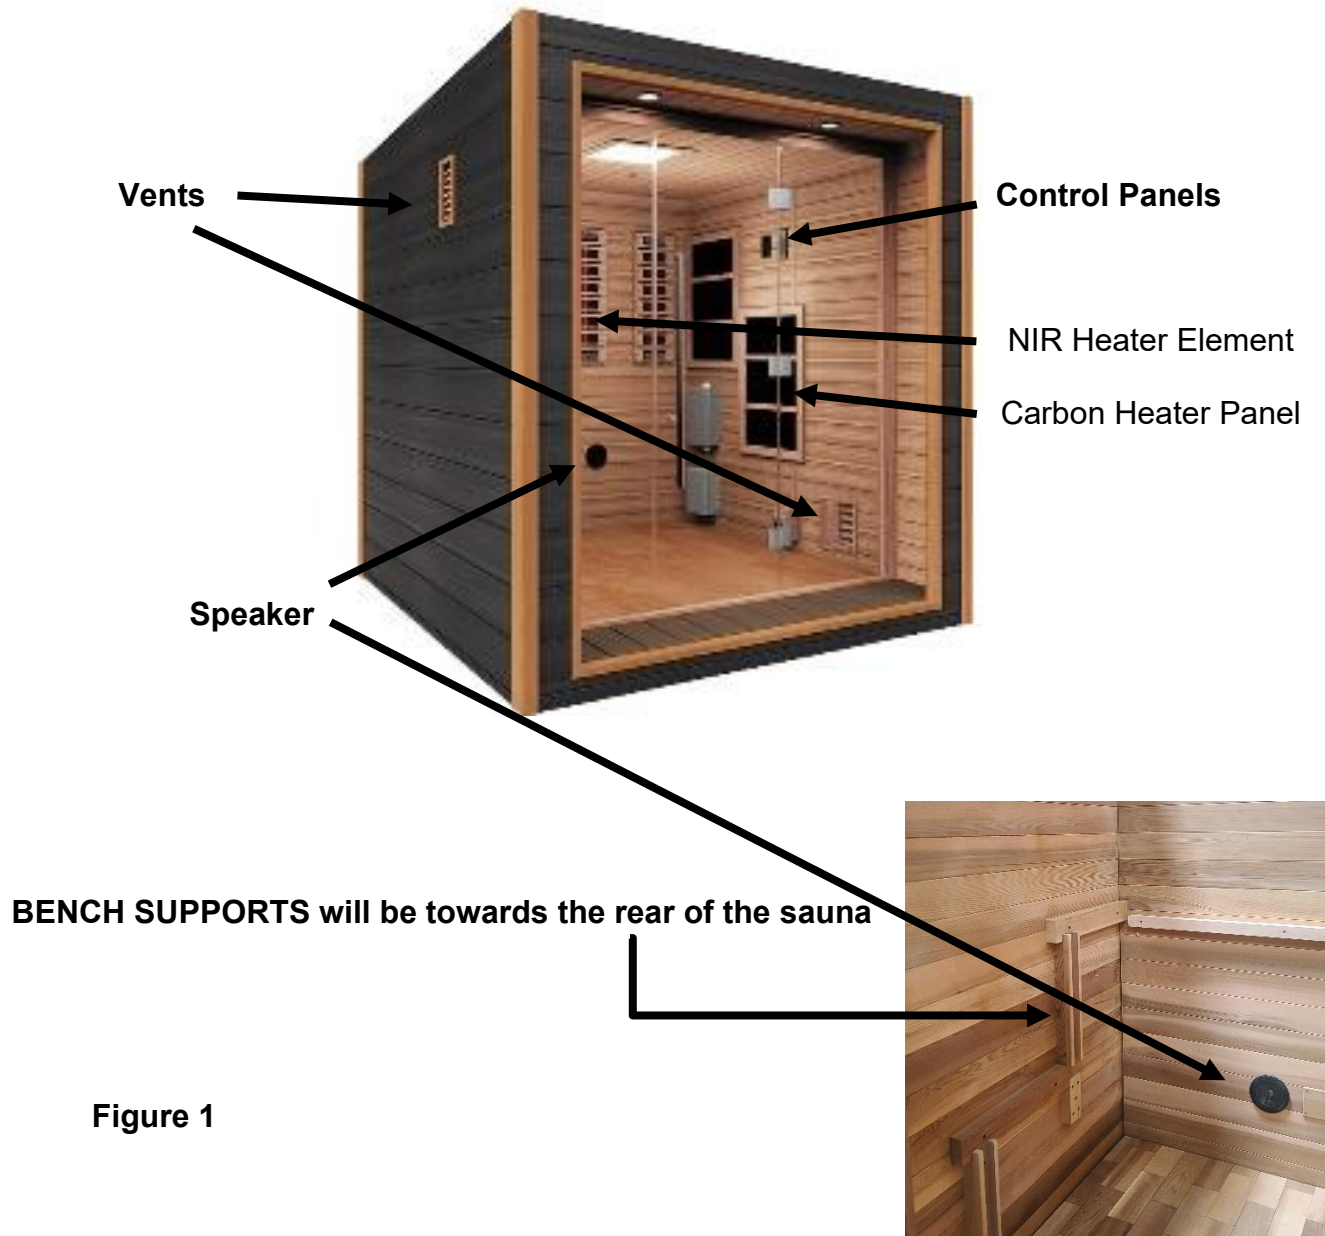

Figure 1
- A. The wall panels can be seen in the image below. The control panels will be located on the RIGHT SIDE WALL PANEL and the speakers will be located on the REAR WALL PANEL. There will be a vent on the lower RIGHT SIDE WALL PANEL and a vent on the upper LEFT SIDE WALL PANEL. The interior will be constructed of Red Cedar and the exterior of decking. (see Figure 1)